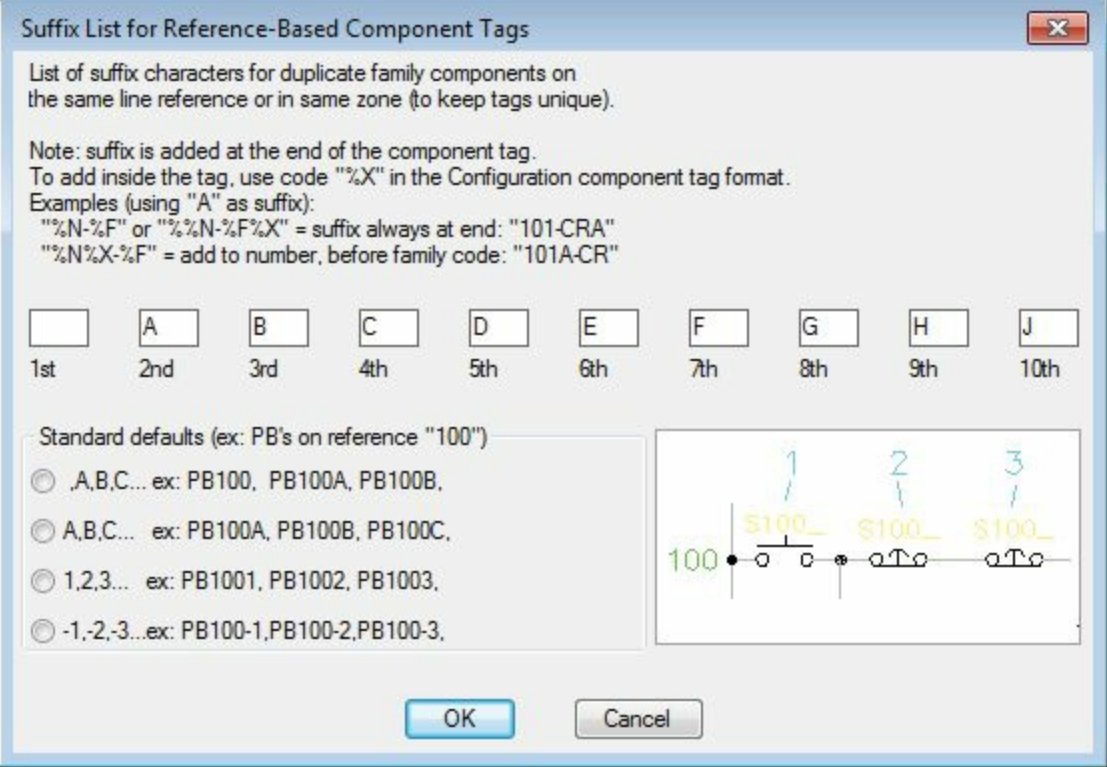

Figure-15. Suffix List for Reference-Based Component Tags dialog box
- The **Suffix Setup** button is used to manage suffix for component tag. On clicking this button, the **Suffix List for Reference-Based Component Tags** dialog box will be displayed; refer to Figure-15. These suffix are automatically applied in case of duplicates in component tags.